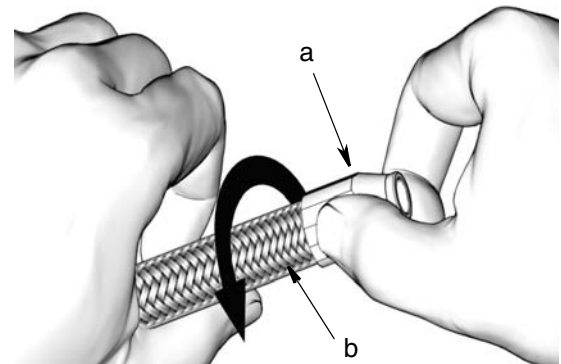

FIG. 58
4. Slide socket (a) over cut end of hose (b). Hand tighten socket to hose by turning socket counterclockwise into hose (FIG. 58).